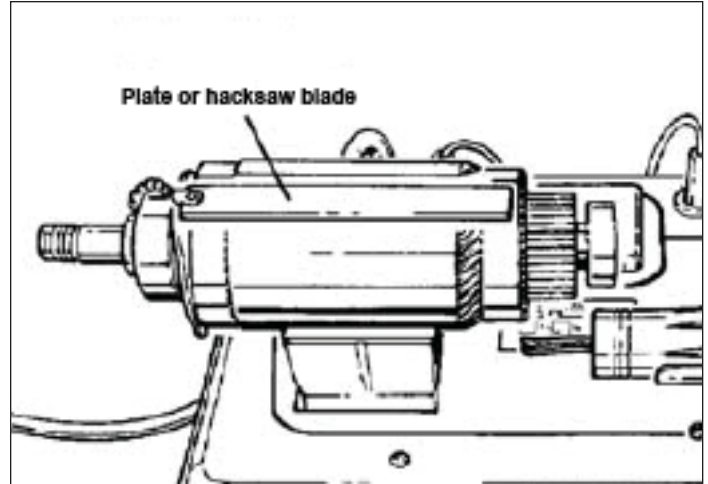

Figure 10-12. Checking Armature for Shorted Windings
2. For short circuit connection, use a hacksaw blade to locate any shorted windings. Rotate armature slowly in growler jaws and hold a hacksaw blade in parallel against top of armature. The steel blade will be attracted to the core and will vibrate when two shorted armature coils are located. See Figure 10-12.